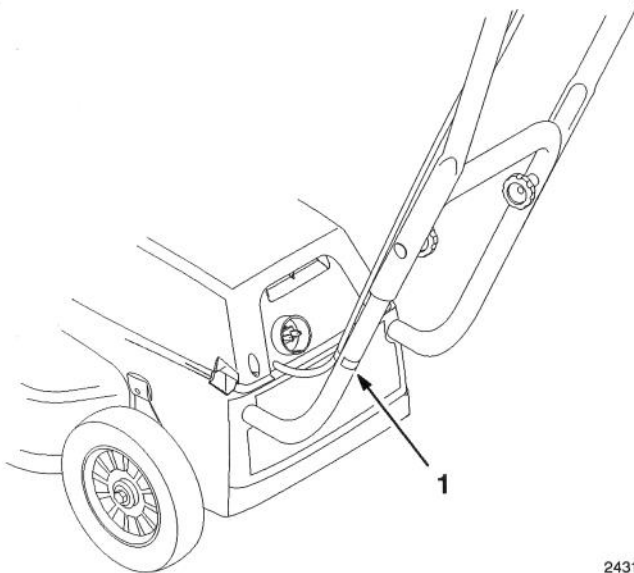

Figure 3
4. If handles are in highest height position, use clip to attach cable to left side of lower handle tube (Fig. 3).